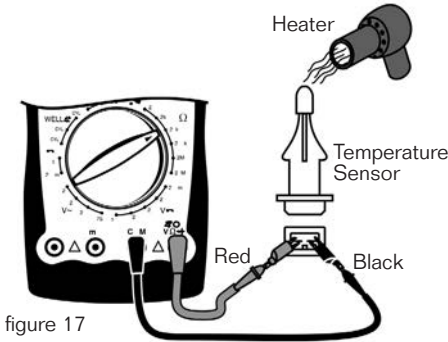

figure 17
2. Temperature sensor (see figure 17)